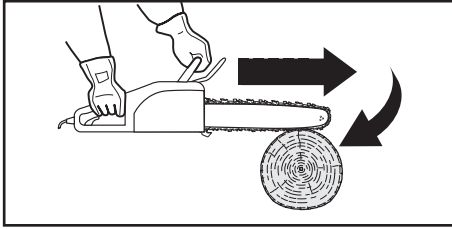

Fig. 23
1. Pinching the saw chain (12) along the bottom of the guide bar (13) may pull the product forward away from the operator (Fig. 23).